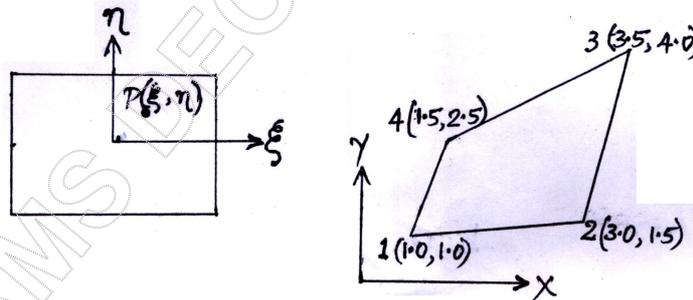

Fig.Q8(a)
- 8 a. Determine the Cartesian coordinate of the point P($\xi = 0.8, \eta = 0.9$) as shown in Fig.Q8(a).